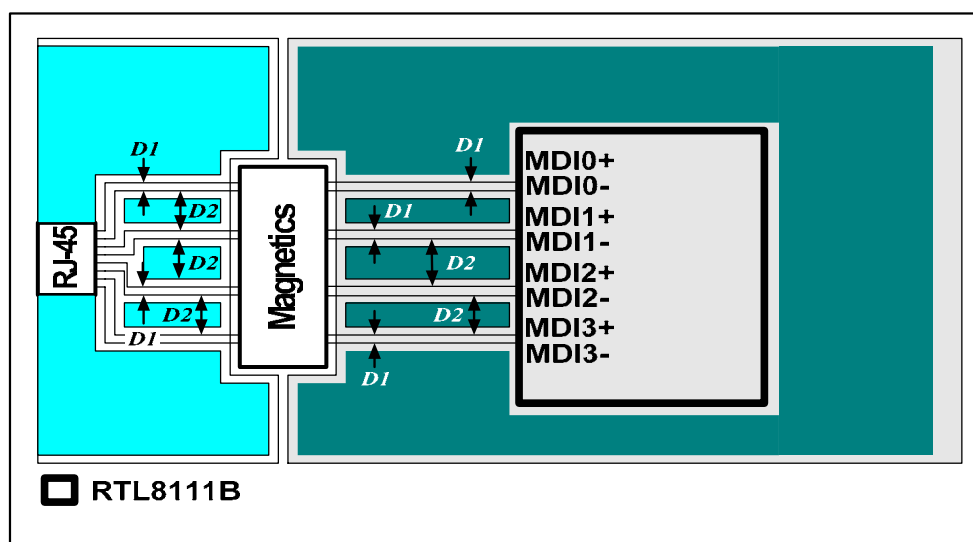

Figure 3. Signal & Trace Routing
- Traces routed from the RTL8111B-GR to the 10/100/1000M magnetics, and to the RJ-45 connector, should be as short as possible. The 12cm maximum length between the RTL8111B-GR and magnetics is achievable only when there is no interference. It is also very important to keep all four differential pair signal traces (MDI0+/-, MDI1+/-, MDI2+/-, MDI3+/-) equal in length. The two traces of each pair should be placed close to each other (D1) since they are differential pair signals to each other and provide a strong canceling effect on noise. D1 can be the width of each of the two differential traces. E.g., if the width of the trace is eight mils, then D1 can be 8 mil wide (Figure 3).
- We suggest that there should be more than 50 mil spacing between different differential pairs to minimize cross-talk coupled from other pairs (D2 in Figure 3). In addition, Ground Plane shielding can be used to separate all four signal pairs. However, a good layout should avoid the following situations: